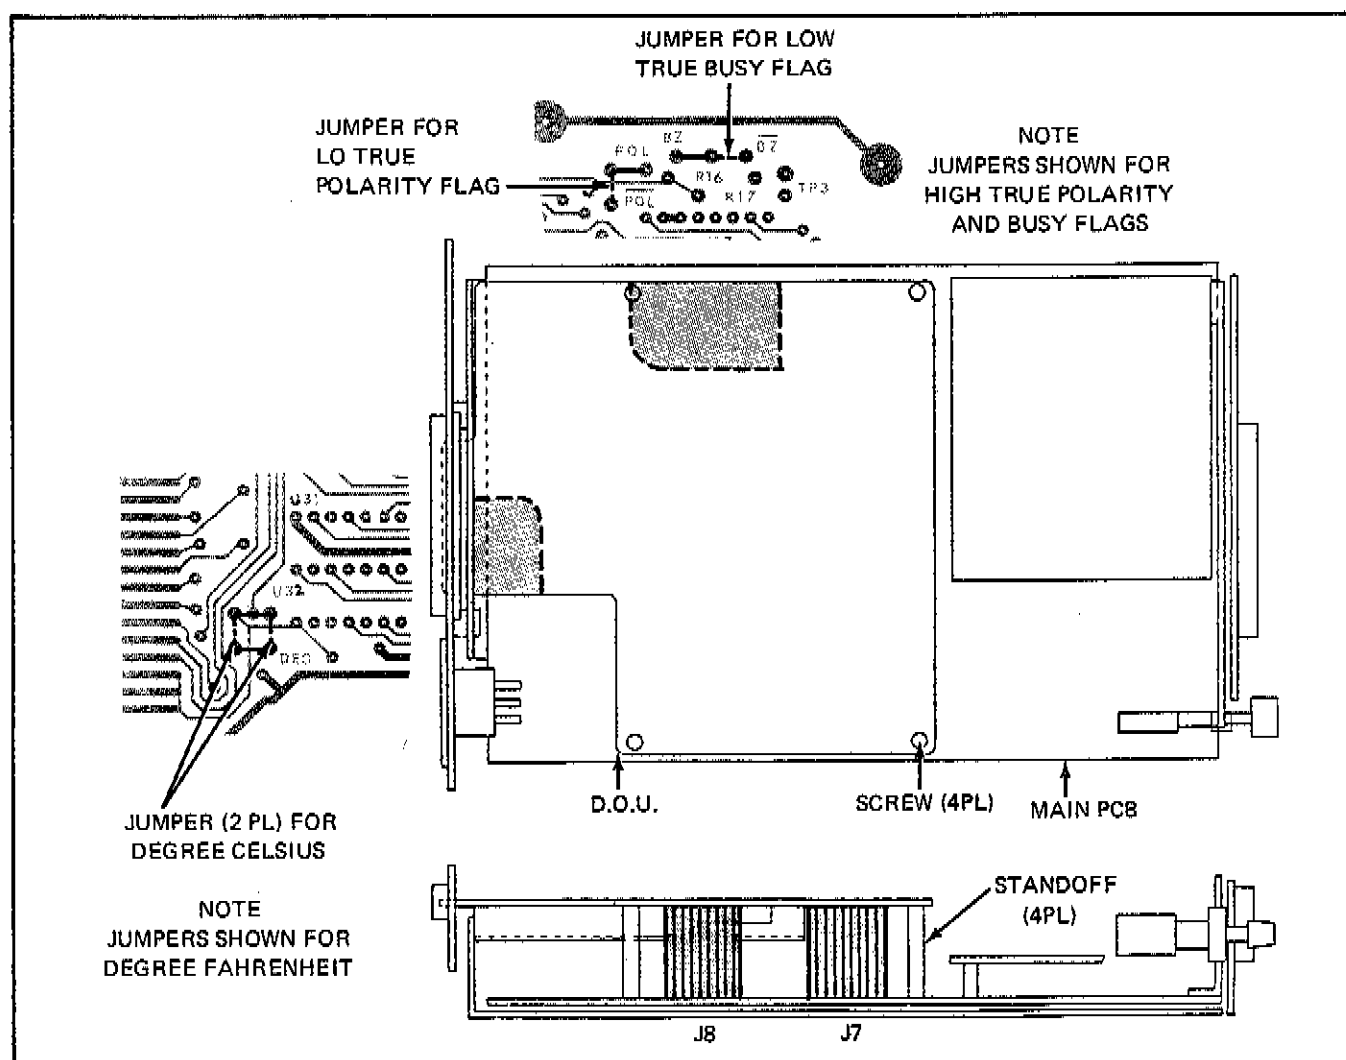

Figure 6-9. DOU INSTALLATION ILLUSTRATION
6-69, Use the following procedure to install the Digital Output Unit in the 2100A. Refer to Figure 6-9 for item locations:
- c. Position the DOU on the Main PCB as shown in Figure 6-9.